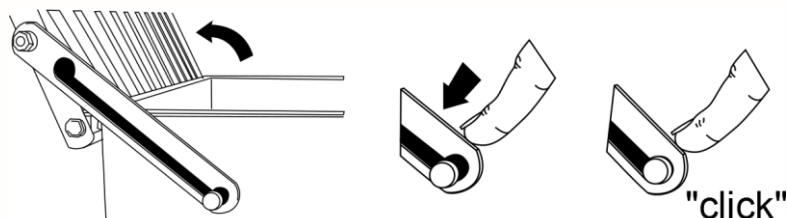

FIG. 2 LOCKING THE HOPPER GUARD
During the operation of the Mixer-grinder, the hopper guard (19) must be closed all the time to avoid personal injuries. Open the hopper guard and lock it by pushing the lever against the bolt until "clicks". (See Fig 2) Introduce the meat or the product to mix or grind, then push the lever in the opposite direction to unlock it. Close the hopper guard.